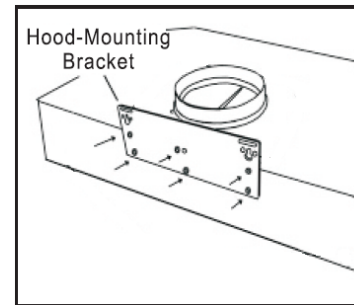
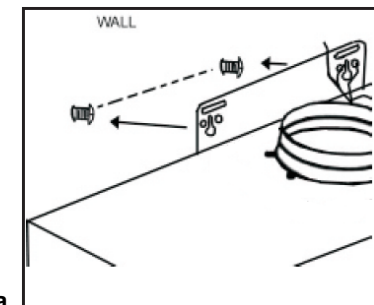

Fig. 2a
Fig. 2b
- f. Install the hood mounting bracket to the back of the unit and secure it with the (6) screws provided. **(Fig. 2a)**
- g. Install the duct cover mounting panel with the (5) screws provided.
- i. Mount the unit onto wall with mounting screws (not included) **(Fig. 2b)**
- k. Mount the unit onto wall with mounting screws (not included) (**Fig. 2b**)